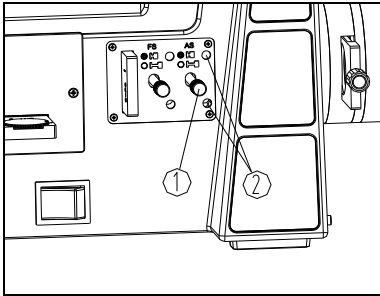

Fig. 25
The changing of the aperture diaphragm is the same as field diaphragm, adjusting it by the shift lever ① of the aperture diaphragm. (Fig. 25)